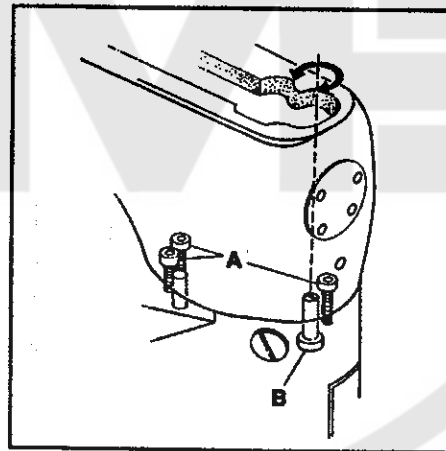

FIG. 5
Remove the top front cover and gasket from the main frame. Loosen cylinder holding screws (A, Fig. 5). Turn eccentric screw (B) clockwise to move the cylinder so the needles are closer to the right side of the stitch tongue. Turn the stud counterclockwise to locate the needles closer to the left. Tighten screws (A) and recheck settings. Various components may have to be removed from the machine so cylinder holding screws (A) can be accessed.